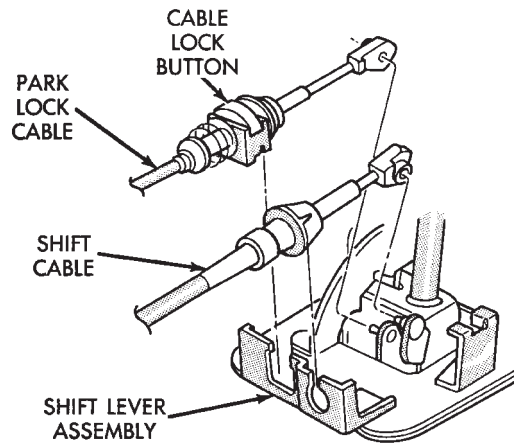

Fig. 47 Park Lock Cable Attachment
- (1) Shift transmission into Park.
- (2) Turn ignition switch to Lock position.
- (3) Remove shift lever bezel and console screws. Raise bezel and console for access to cable.
- (4) Pull cable lock button up to release cable (Fig. 47).
- (5) Pull cable forward. Then release cable and press cable lock button down until it snaps in place.
- (6) Check adjustment as follows: